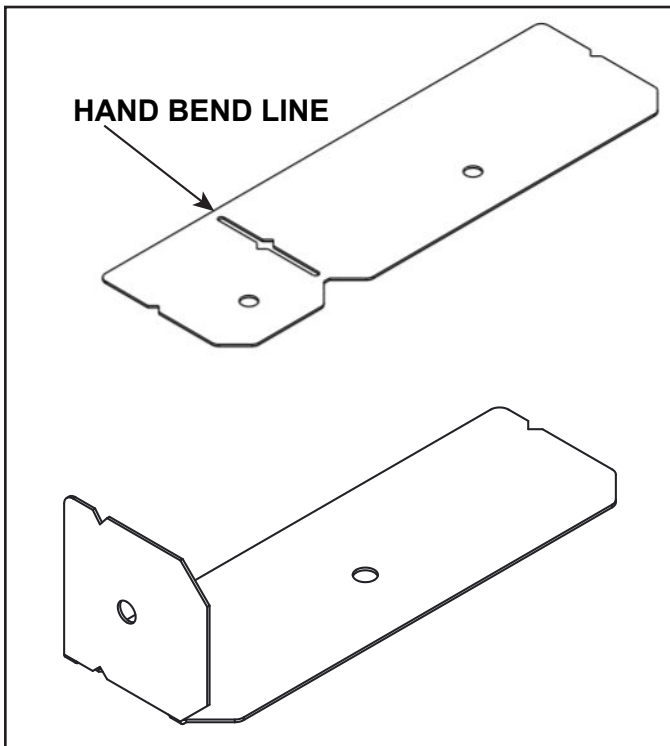

Figure 9 Hand Bending the Template
1. Hand bend templates as shown in Figure 9.